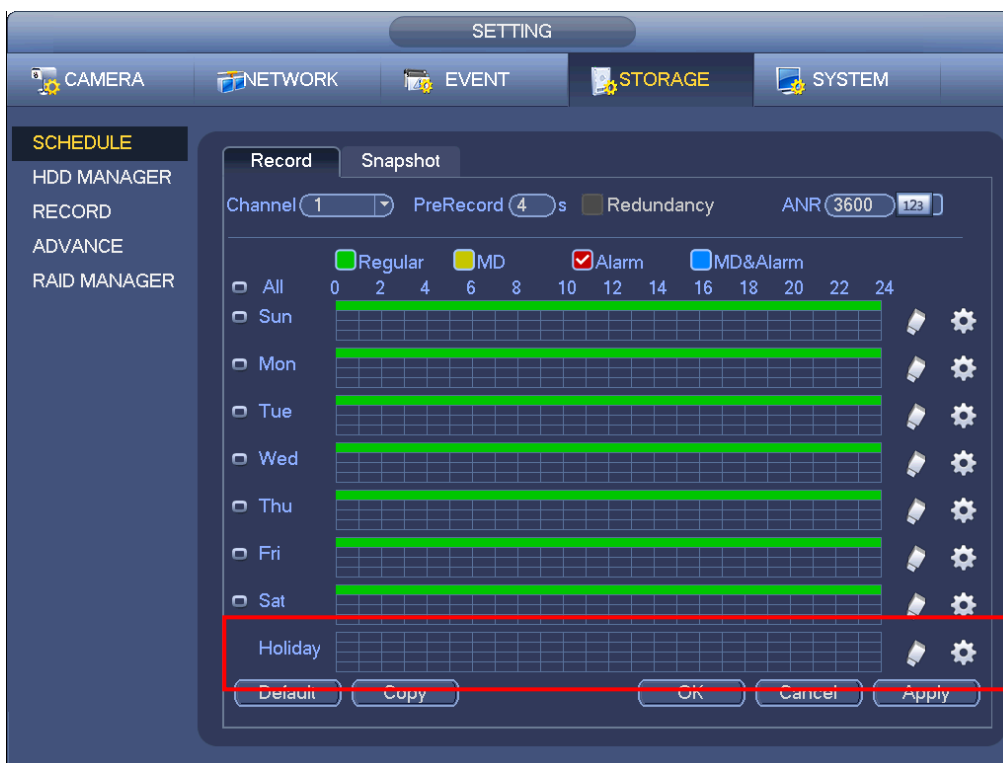

Figure 4-48
In the main menu, from Main menu->Setting->Storage->Schedule, you can go to schedule menu. See Figure 4-48. There are total six periods.
In the main menu, from Main menu->Setting->Storage->Schedule, you can go to schedule menu. See Figure 4-48. Here you can set snapshot period. There are total six periods in one day. Please refer to chapter 4.7.2.1 for detailed setup information. The setup steps are general the same.
- g) From Main menu->Setting->Storage->-Schedule. See Figure 4-48
- h) Set motion detect record channel, period and the record type shall be motion detect (MD). Please refer to chapter 4.7.2.
- d) From Main menu->Setting->Storage->Schedule, you can go to Figure 4-48.